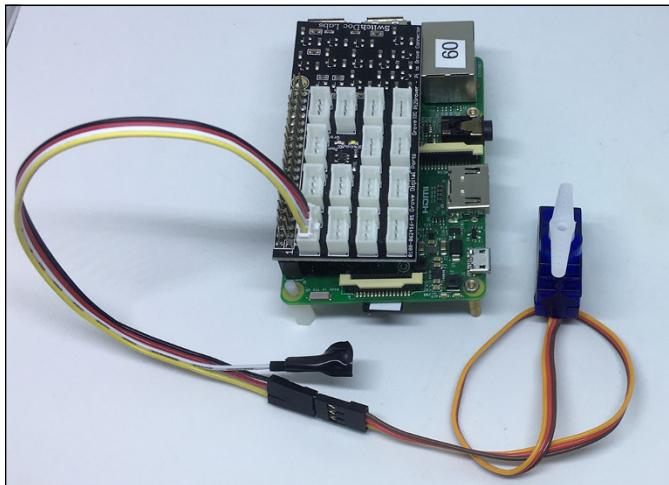

FIGURE 4-12:
4. **Put a piece of electrical tape or blue tape over the white exposed pin on the Grove patch cable to keep it from shorting anything out. Also put one of the supplied rocker arms on the servo motor gear so we can see more easily its range of motion. (See Figure 4-12.)**